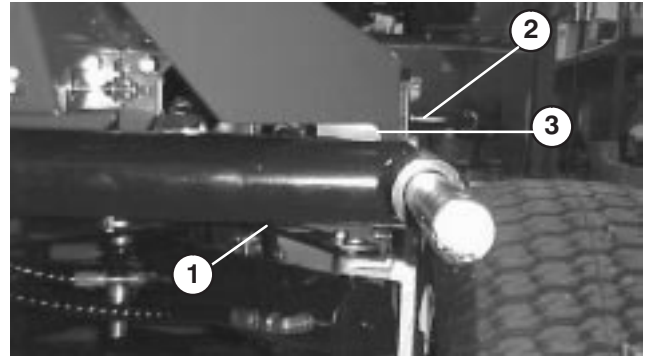
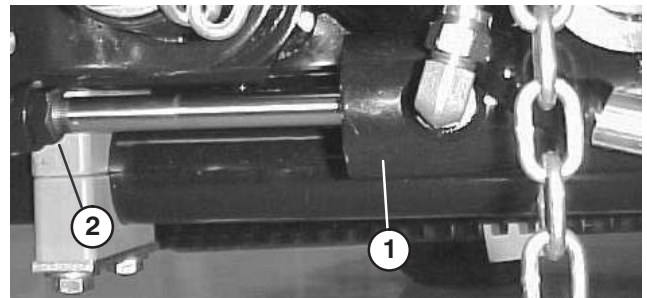
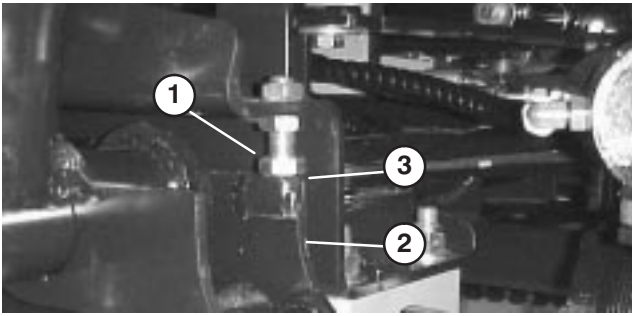

Figure 10
Figure 11
Figure 12
ADJUST LIFT ARMS (Fig. 10 – 14)
1. Start engine, raise decks and check to make sure clearance between each lift arm and floor plate bracket is .18" – .32" (Fig. 10). If clearance is not in this range, back off stop bolts (Fig. 12) and adjust cylinder to attain clearance. To adjust cylinder, back off the jam nut on the cylinder (Fig. 11), remove pin from rod end and rotate clevis. Install pin and check clearance. Repeat procedure if required. Tighten clevis jam nut.
2. Check to make sure clearance between each lift arm and stop bolt is .005" – .040" (Fig. 12). If clearance is not in this range, adjust stop bolts to attain clearance.